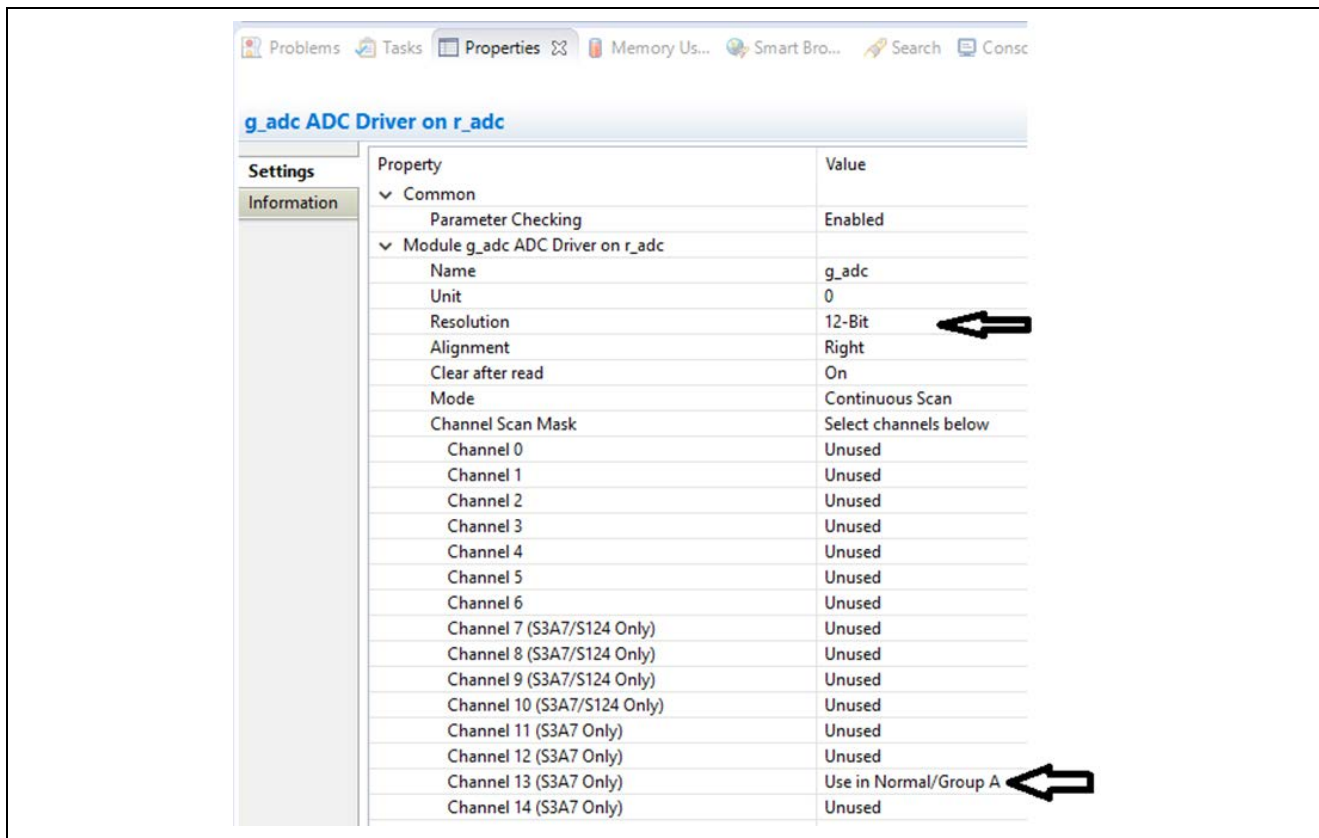

Figure 6 ADC Module properties window
4. Go to the **Properties** tab for the ADC driver and select the resolution and channels, as shown in Figure 6. For details on the ADC driver properties, see the ADC module guide. Use the keyword "r_adc" in this link to download the ADC module guide document.